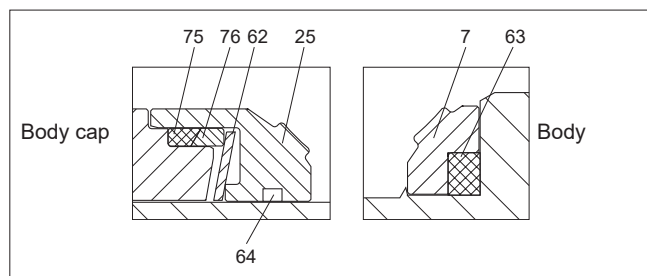

Fig. 18 G seat
- Place the back seal (63) into the seat (7), see Fig. 18, and then both parts all the way into the body (1) counterbore.
- Place the ball on the locked seat so that the slot faces the shaft entrance opening. Push the shaft (5) into the valve from outside. Make sure that the end of the shaft fits into the ball slot.
- Assemble the seat (25) with back seal (64), spring (62), back seal (75) and back-up ring (76), see Fig. 18, and place the assembly in the body cap (2).